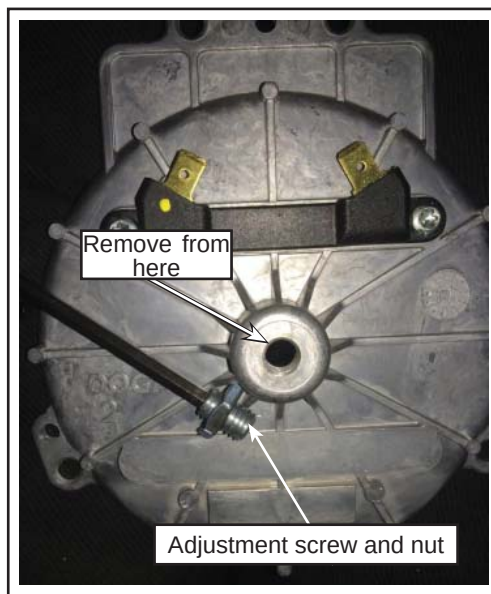

Figure 7 - Axial Adjustment Screw and Lock Nut Removal from the N8902815 Cover
- 1.11. Remove the end play adjustment screw and its nut from the new N8902815 cover assembly. See Figure 7. Retain the hardware.